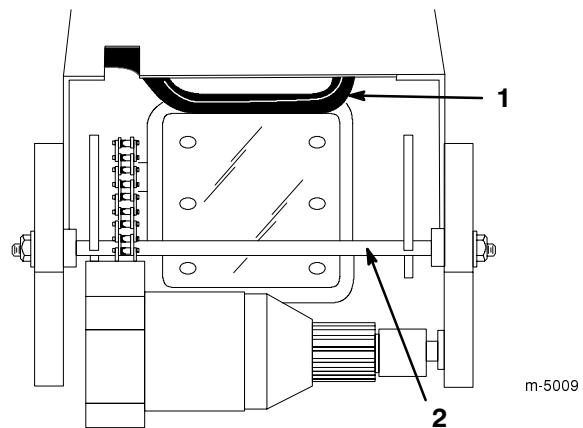

Figure 3
8. Push the latch rod to the release the axle (Fig. 3).
9. Pull up on the axle while holding in the latch rod (Fig. 3).
10. Continue pulling the axle forward until the latch rod springs into the locked position (Fig. 3).